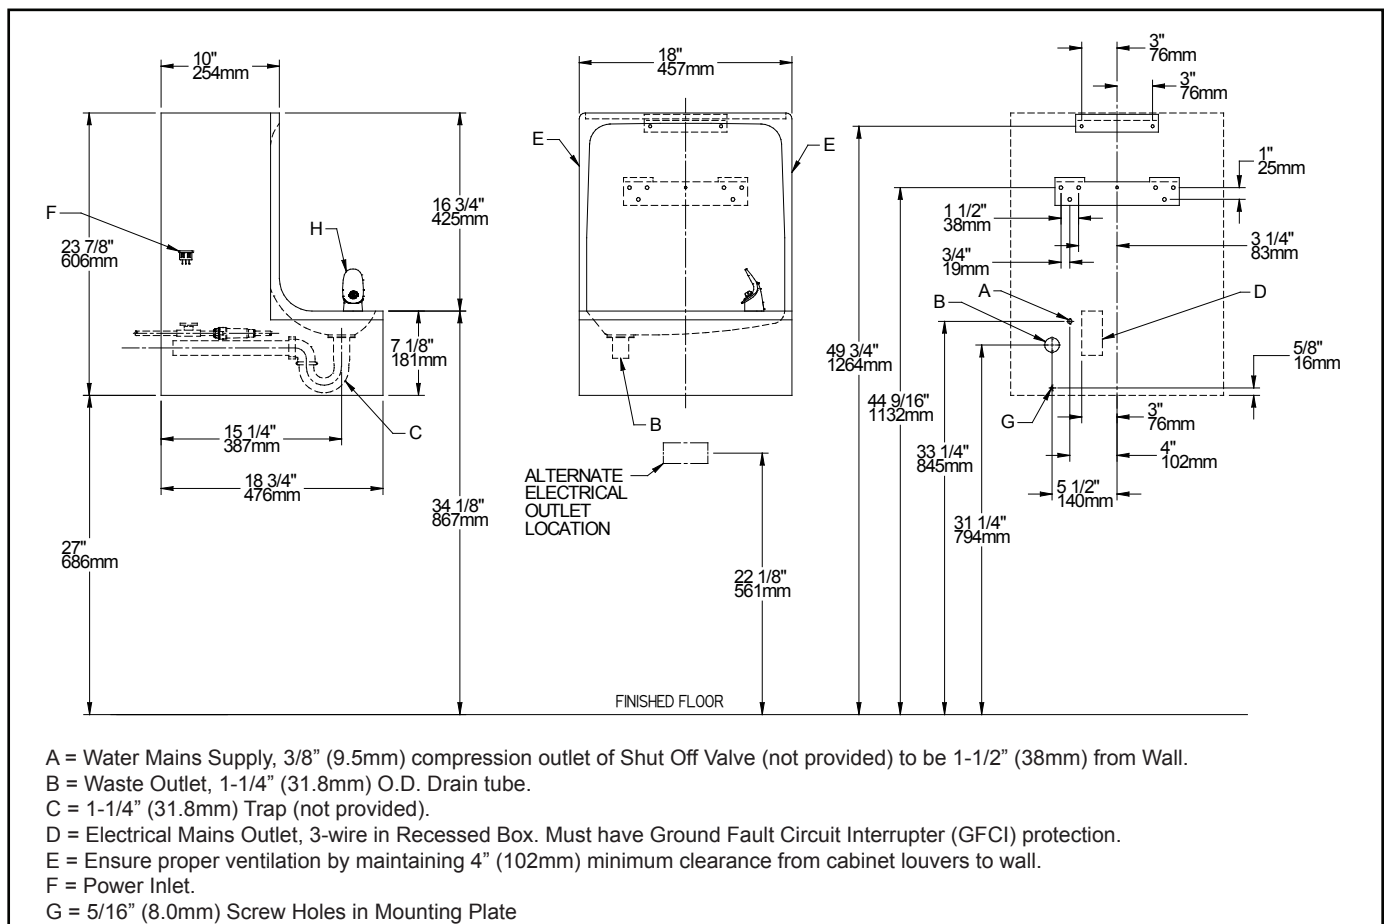

Figure 1
4. Mount the Mounting Plate as shown in Rough-In drawing (Fig. 1)
5. Anchor Mounting Plate securely to wall using six (6) mounting holes.
2. Hang Cooler on the Mounting Plate. Be certain the Mounting Plate is engaged properly on the cross brace at Cooler back as shown in Rough-In (Fig. 1).
3. Loosen the two (2) screws holding the front panel at the bottom of cooler base. Remove the front panel and set aside.